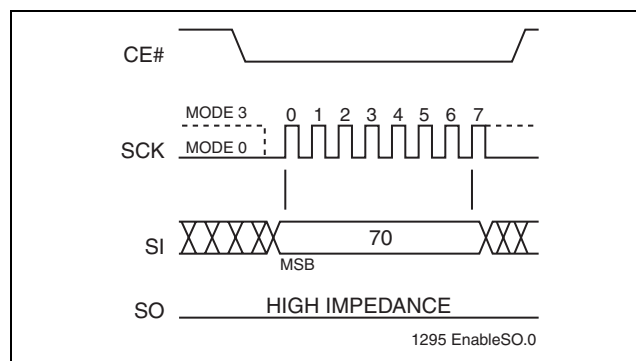

FIGURE 7: ENABLE SO AS HARDWARE RY/BY# DURING AAI PROGRAMMING
The hardware end-of-write detection method eliminates the overhead of polling the Busy bit in the Software Status Register during an AAI Word program operation. The 8-bit command, 70H, configures the Serial Output (SO) pin to indicate Flash Busy status during AAI Word programming. (see Figure 7) The 8-bit command, 70H, must be executed prior to executing an AAI Word-Program instruction. Once an internal programming operation begins, asserting CE# will immediately drive the status of the internal flash status on the SO pin. A “0” indicates the device is busy and a “1” indicates the device is ready for the next instruction. De-asserting CE# will return the SO pin to tri-state.